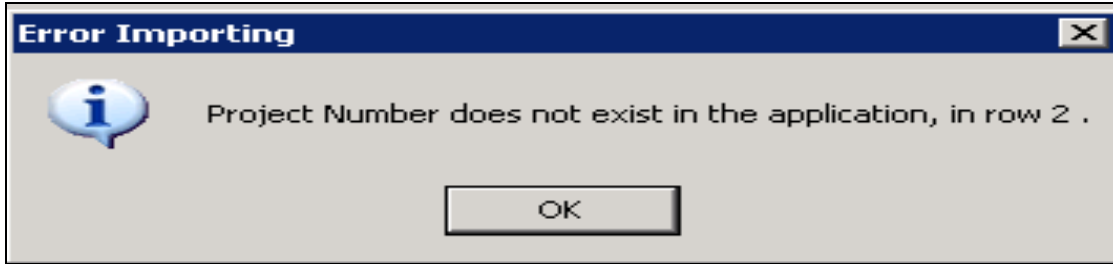

Figure 11-58: Project Number does not exist error message
- The system will return the following Error Importing message (Figure 11-58). While the message says "Project Number does not exist", this message or another possible message, "Application ID does not exist or is not approved in the application" will be displayed anytime the MT Project Number and Application ID do not match or if the project does not exist in the system as eligible to be reported out. Select OK, correct or enter the Application ID or Project Number or both and attempt to import the spreadsheet again.